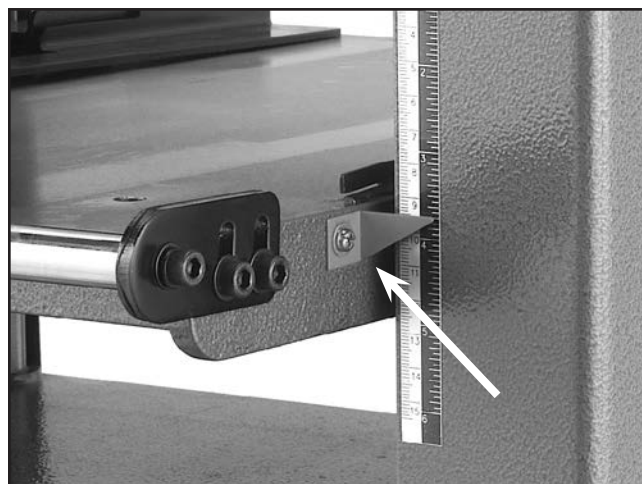

Figure 36. Scale pointer screw.
4. Measure the board again and compare your results with the scale. If there is a discrepancy, loosen the scale pointer screw shown in **Figure 36** and correct the position of the pointer.